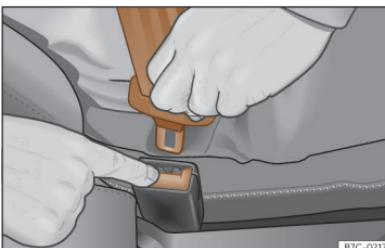

Fig. 21 Release the seat belt's latch plate.
- Press the red button on the buckle >>> **Fig. 21**. The latch plate is released from the buckle.